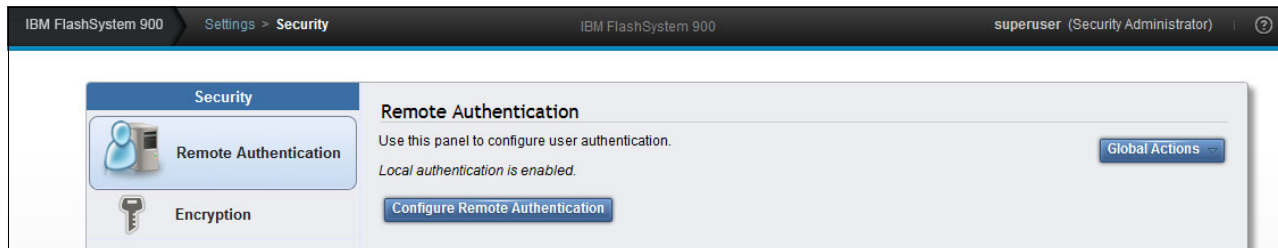

Figure 7-26 Remote Authentication: Test LDAP Connections option
2. Click **Global Actions** and select **Test LDAP Connections** (Figure 7-26 on page 251).